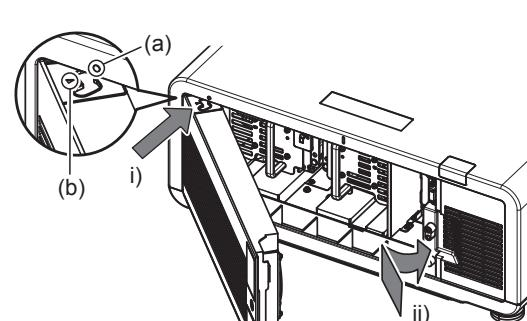

Fig. 2
4) Attach the lamp unit cover. (Fig. 2)